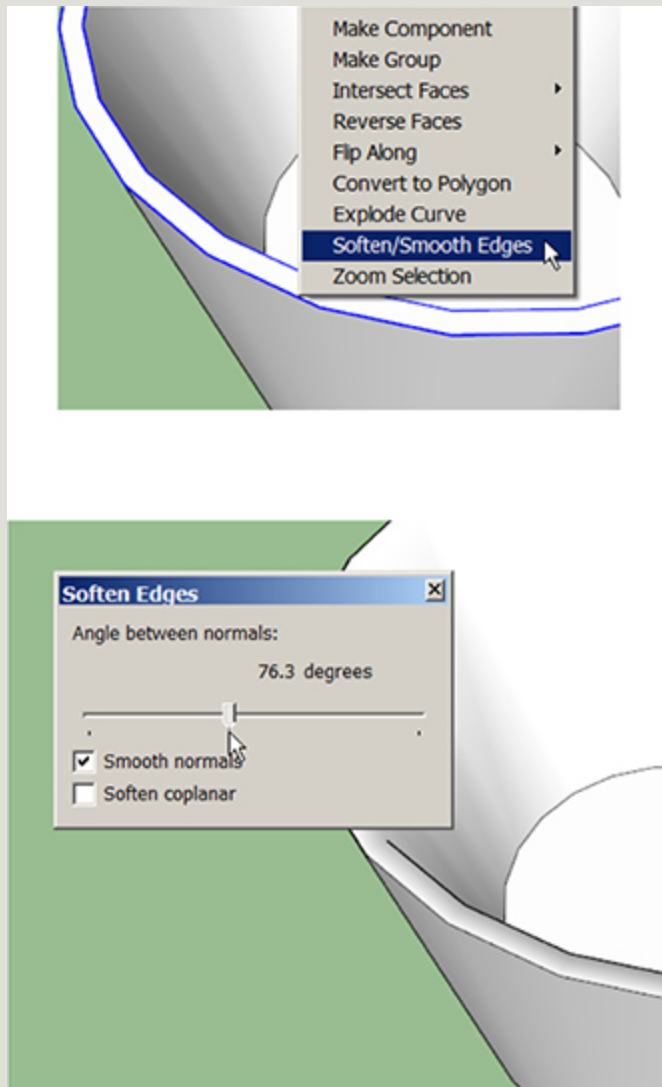

Figure 3-80 Smooth the mug's top.
4. Smooth the mug's top edge (Figure 3-80). Select both circles (hold the SHIFT key down to do this), right-click on one, and choose Soften/Smooth Edges. Then move the slider